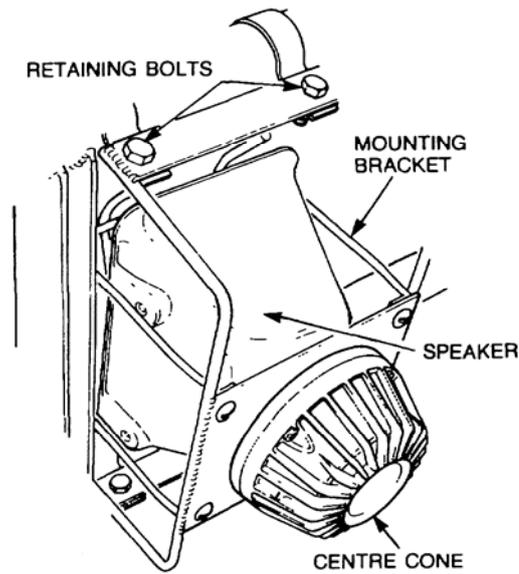

Figure 22 Audible Warning Device Removal
- c. Remove the four bolts, washers and nuts securing the mounting bracket to the brushguard clamps (refer Figure 22).